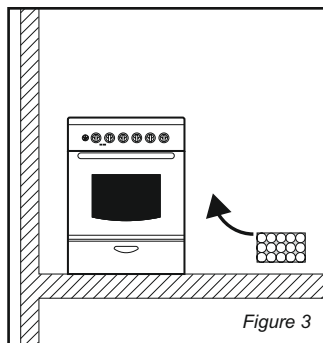

Figure 3
•Combustion gases from cooking appliances must be released directly out of doors or via a hood connected to a chimney or flue (Figure 3)